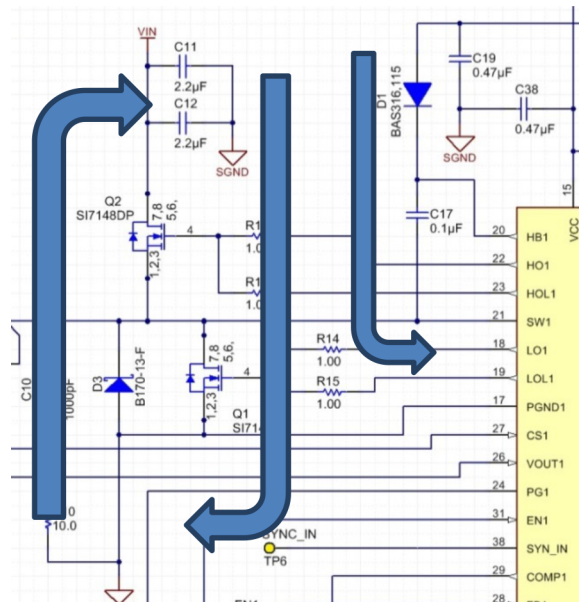
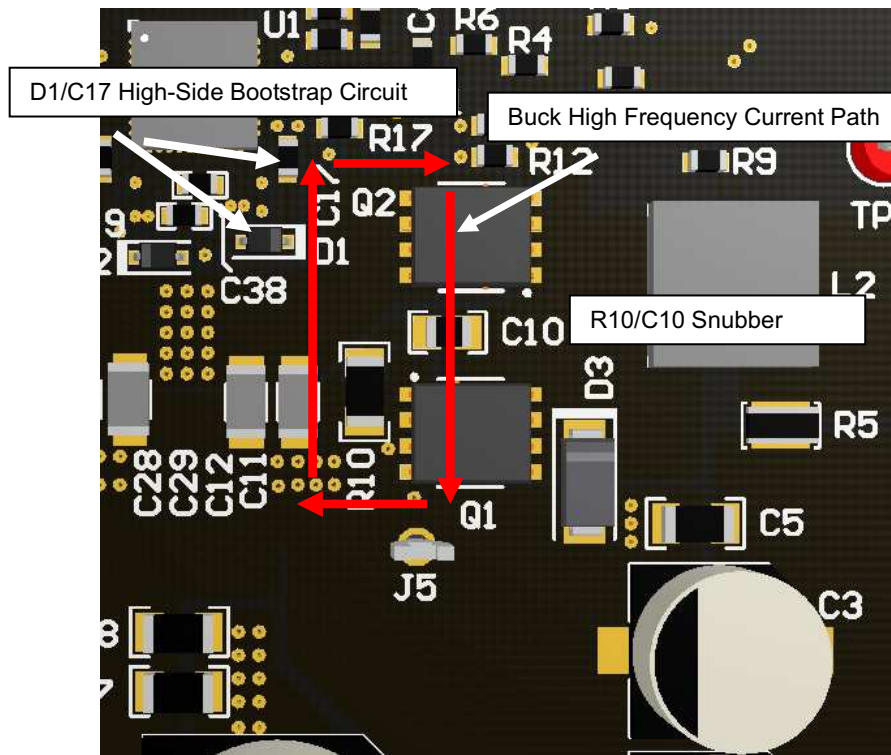

Figure 41. Synchronous Buck Power Flow
Figure 42. Synchronous Buck High Frequency Current Path
- Locate the gate drive components (D1 and C17) together and near the controller IC; refer to Figure 41. Be aware that peak gate drive currents can be as high as 4 A. Average current up to 150 mA can flow from the VCC pin to the VCC capacitor through the bootstrap diode to the bootstrap capacitor. Size the traces accordingly.
- Figure 41 shows the schematic of the high frequency loops of one synchronous buck channel. The current flows through Q1 and Q2, through the power ground plane and back to VIN through the ceramic capacitors C11 and C12. This loop must be as small as possible to minimize EMI. Refer to Figure 42 For the recommended PCB layout.